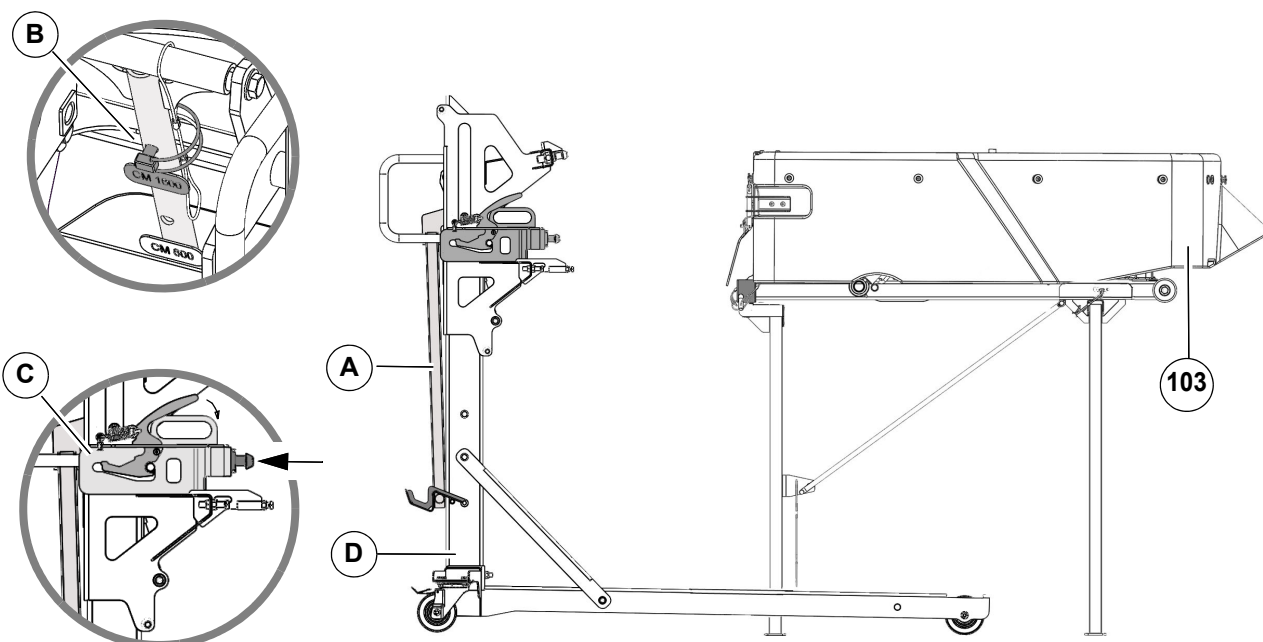

Fig. 204:
2. Unlock the lever **Fig. 204-A** of the trolley **Fig. 204-D** (optional) and swing it into the upper position.
3. Hold the lever **Fig. 204-A** in the upper position with one hand and with the other hand fit the mounting bolt **Fig. 204-B** on the Citymaster 1650.
Risk of injury! The lever **Fig. 204-A** can swing over.
4. Unlock the sledge **Fig. 204-C** with the lever and push it into the rear position.